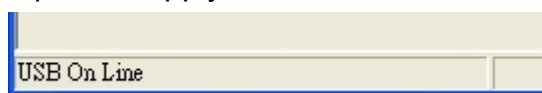

Figure 1- 15
**Step 1:** Click USB Scan on the interface of HY12P65 ENOB Test Tool. "USB On line" will show up when the connection is successful, as Figure 1- 15. If not, please make sure the hardware connection or power supply is correct.